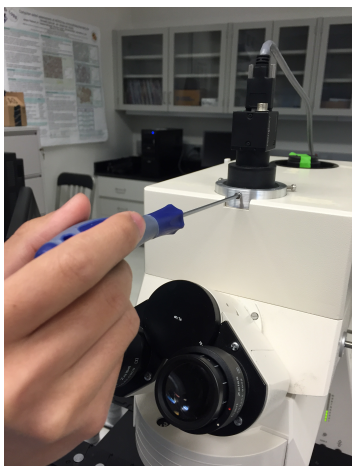

Figure 3
5. Loosen the screws around camera. (Figure 3)